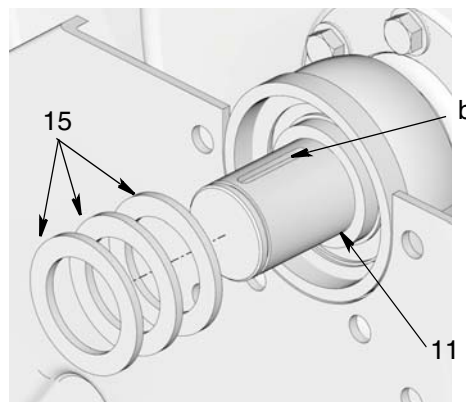

FIG. 42
- b. Rotate shaft (11) so the key-way (b) faces up. Install three spacers (15) over shaft (FIG. 42).